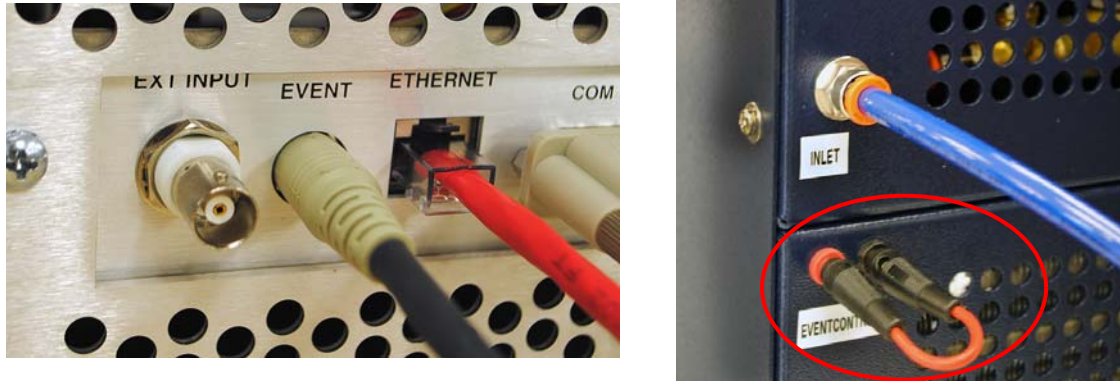

Figure 16 Event connections: DMA 850 **Event** port (left) and Air Chiller Inlet tubing connected and jumper cable in the **Event Control** port (right).
- 4 Connect the 8 mm Chiller Inlet tubing from the Air Chiller Panel to the Inlet on the ACS. See Figure 16.
NOTE: If a jumper cable is installed in the Event Control port on the back of the Chiller (shown in Figure 16 below), remove and retain it for future use. This jumper cable is not needed for DMA 850 installation.
- 5 Disconnect the event cable from the DMA 850 and ACS and replace with the jumper cable (see Figure 16). Store the event cable for future use.
- 4 Disconnect the Event cable from the ACS and replace it with the jumper cable. See Figure 16. Store the Event cable for future use.